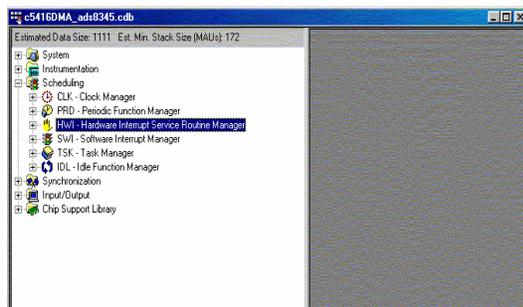
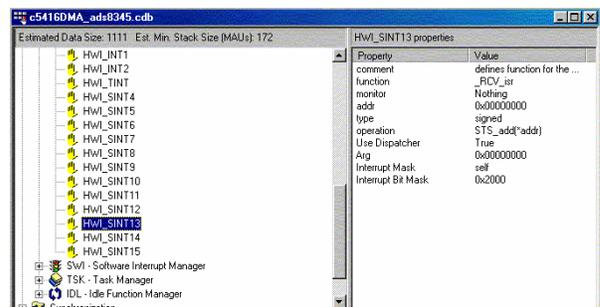

Figure 24. HWI Manager Selection
Figure 25. HWI_SINT13 Selection
1. Select and expand *HWI – Interrupt Service Routine Manager* in the scheduling module of DSP/BIOS. Select HWI_SINT13 as shown in Figure 24 and Figure 25.